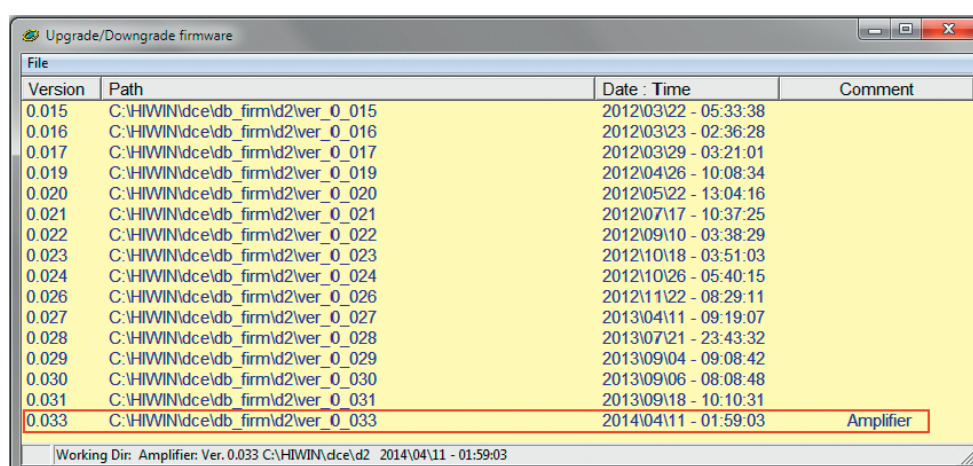

Fig. 6.71 “Upgrade/Downgrade firmware” – check
- ▶ Note **“Upgrade/Downgrade Firmware”** window to check (see Fig. 6.71).